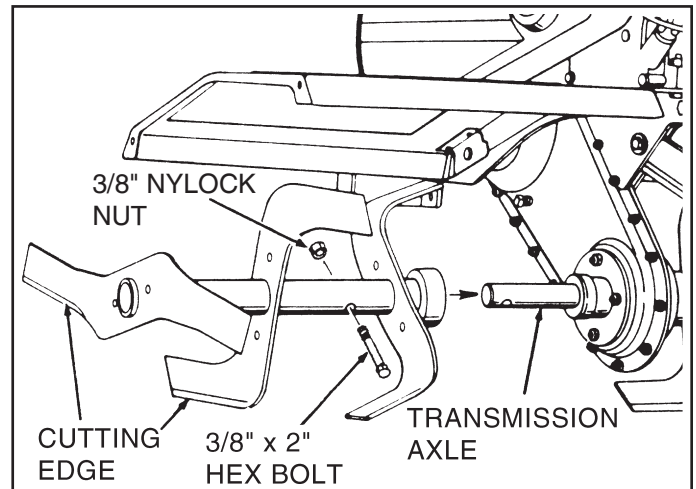

FIGURE 3
- Remove the pre-assembled 3/8" x 2" hex bolt and 3/8" nylock nut from the left hand tine assembly. Slide the tine assembly onto the transmission axle on the left side of the tiller and secure with the hex bolt and nylock nut. See figure 3. Repeat for opposite side.